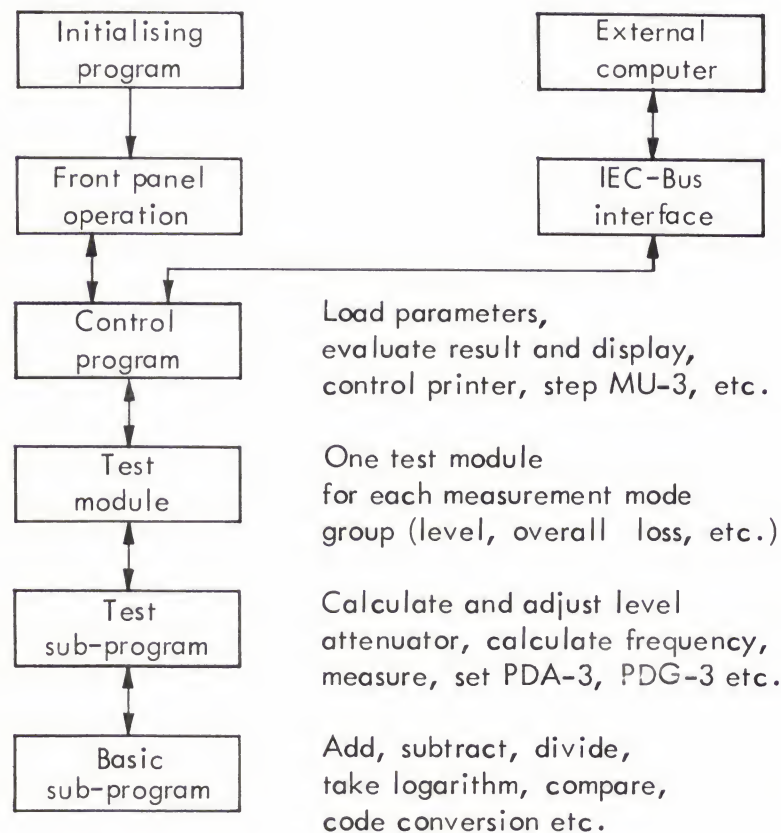

Fig. 4-3 Program structure of the PCM-3
The program structure of the PCM-3 is modular with hierarchical branching of the modules (see Fig. 4-3). The highest level receives the initialising program, which is executed, for example, after switching the instrument on, or on erasing a program (key 12 in position "ALL"). On the next level, the measurement tasks, entered via the operating section or the IEC-Bus-card, are transmitted to the PCM-3. With the start command, the control program, guiding and monitoring the complete measuring run, proceeds. A single measurement can be dealt with or a complete measuring program of some hundreds of test points, whose test parameters are filed in ROM (customer's program). The control program loads the measuring parameters, starts up the measurement, evaluates the measured results, controls the digital display and feeds out the printer information. After the measurement
Fig. 4-3 shows the modular program structure and quotes some typical tasks for the individual hierarchical steps. Each module is capable of running itself on receipt of the required parameter and reports back to its superior module, when the task is carried out. In this way the program is easily checked out (for example, in error tests) and easy to modify without interaction with the modules. Besides that, this concept ensures a high software reliability.